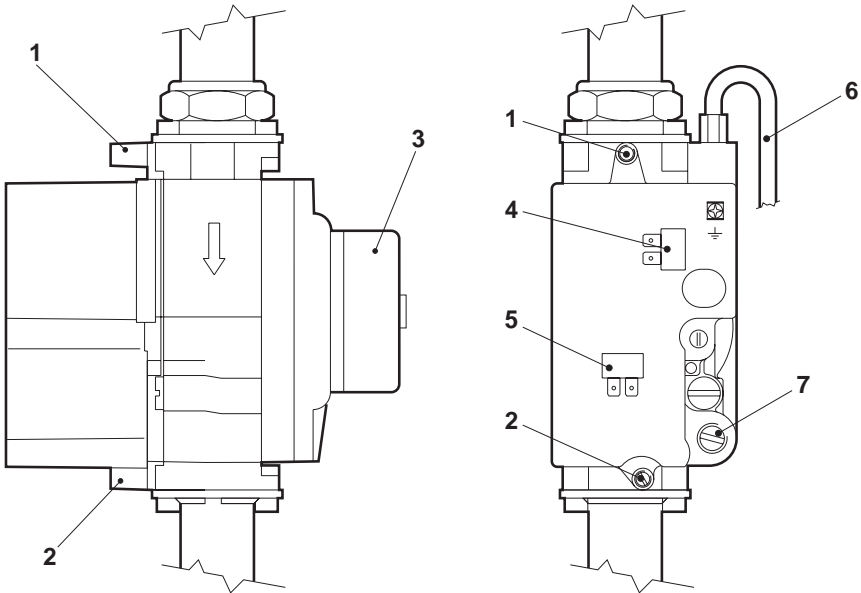

Fig. 7
Adjust the supply pressure at the main burners by turning the stabilizer screw 7 (fig. 7).
Caution: Pressure measured at pressure test points 1 and 2 (fig. 7) is displayed 30 seconds or more after making the adjustment.
- Carefully screw in fully the pressure regulating screw 7 (fig. 7) on the "BM 762-014" gas valve in models 51-68 and the screws (fig. 8a and 8b) on the "DUNGS MBDLE 407 BO1" valve in model 85-102.